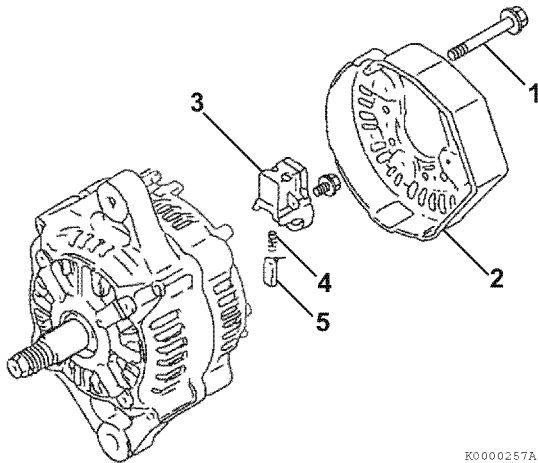

Figure 12-6
- Remove the three bolts (1, **Figure 12-6**) retaining the rear cover (2, **Figure 12-6**) to the rear frame assembly.
- Remove the brush holder (3, **Figure 12-6**). Remove the brush springs (4, **Figure 12-6**) and brushes (5, **Figure 12-6**).